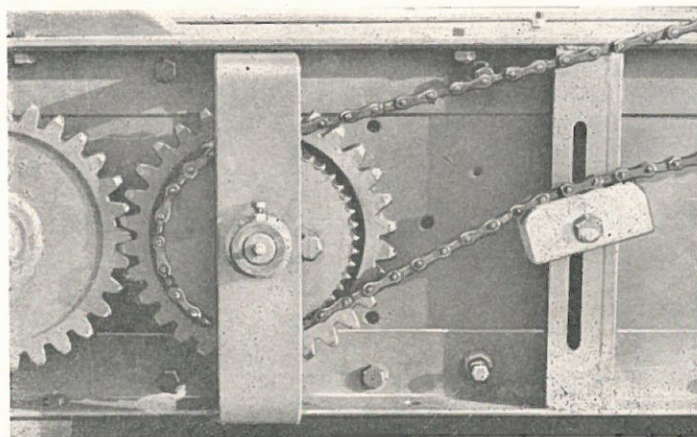

Fig. 15
8. Tighten up Chain Tension adjusting Block (Fig. 15).